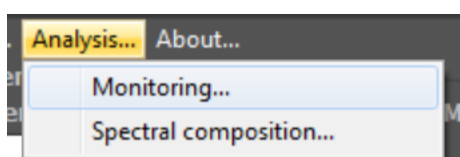

Figure A.6. The " Analysis..." menu
5.3.3 The “Analysis...” menu selects additional "Module-1" modes. It contains the following menu items (see Figure A.6):